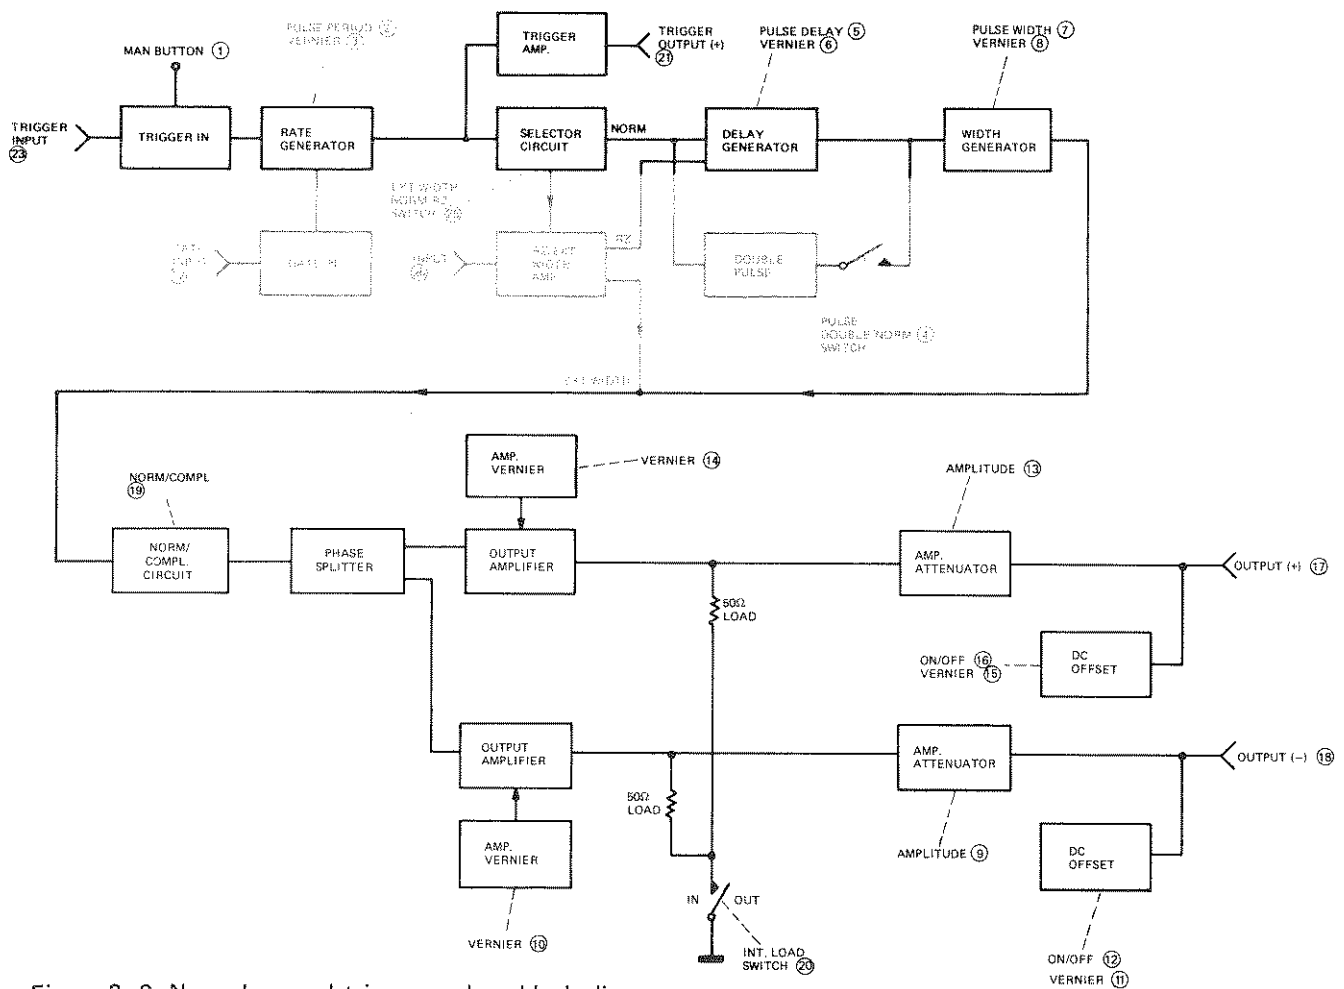

Figure 3-9. Normal manual trigger mode - block diagram
- 3-25 The circuits and controls involved in normal manual trigger operation are shown in Figure 3-9.
3-27 The output pulse parameters and formats can be varied using the controls shown in Figure 3-9.